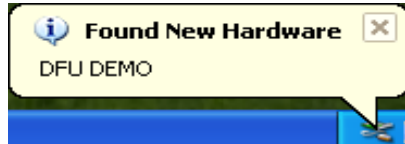
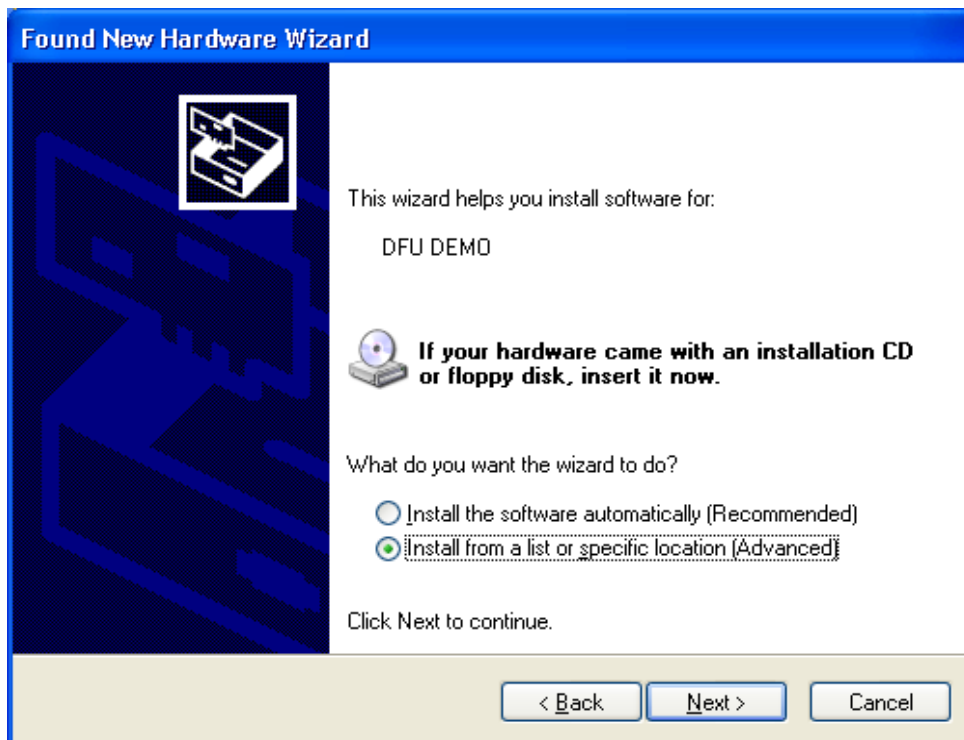

Figure H-2. Find New Hardware callout
Figure H-3. Found New Hardware
1. Turn on DemoJM board, as soon as you turn on the device, it is recognized by the host and a callout as Figure H-2 appears on the right bottom corner of your screen. A Found New Hardware Window appears as shown in Figure H-3.
The Figure H-2 shows the location of each header mentioned above, for an easily identification on the communication board.